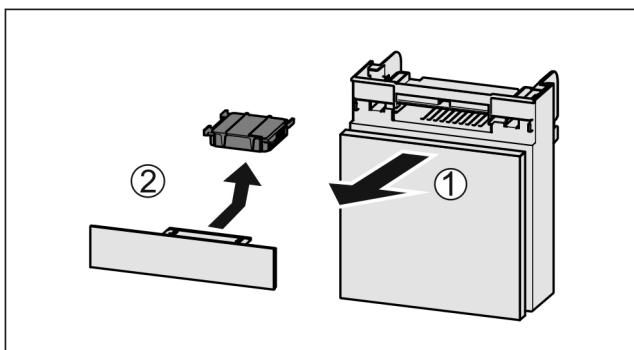

Fig. 97
- ▶ Pull out the compartment Fig. 97 (1).
- ▶ Remove the carbon filter Fig. 97 (2).